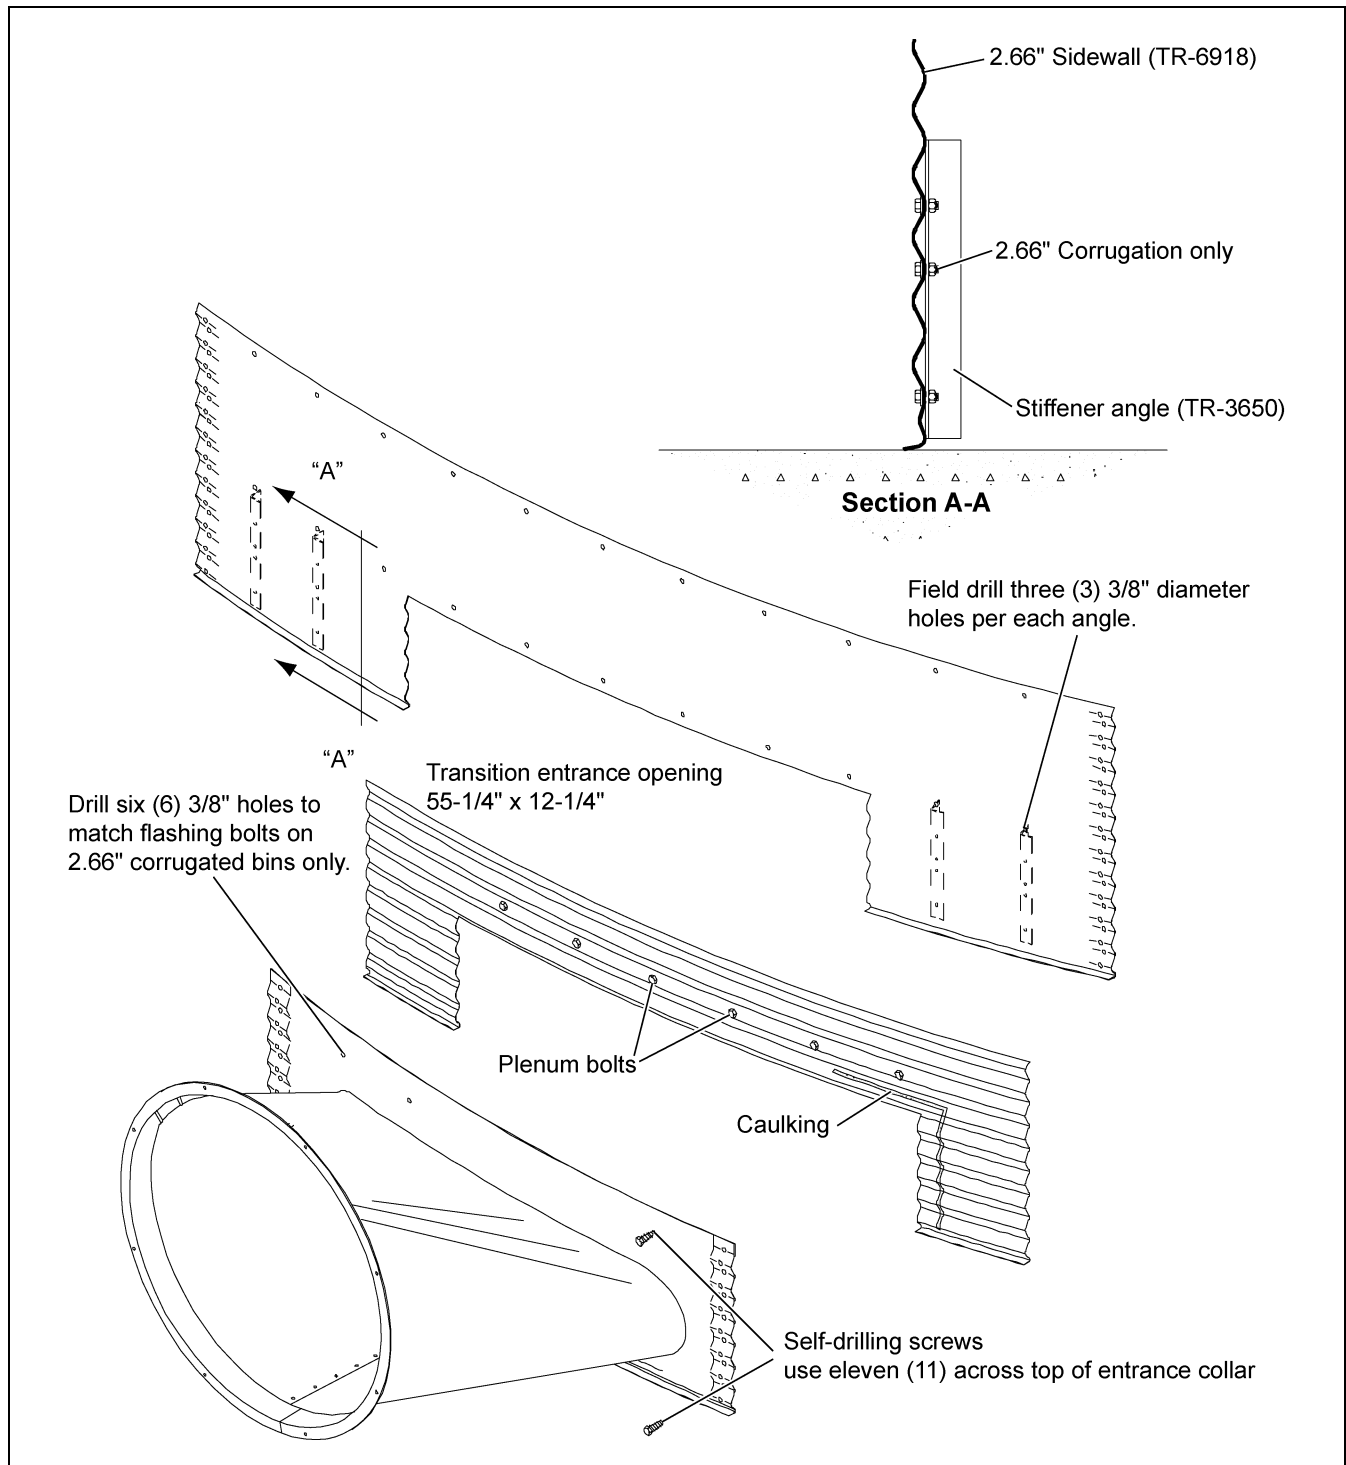

Figure 7
5. Cut 55-1/4" x 12-1/4" hole through base sheet as shown in *Figure 7*. Use stiffener angle as a template and field drill three (3) 3/8" diameter holes per stiffener angle as shown in *Figure 7*. Use 5/16" x 3/4" bin bolts to attach stiffener angles to the sidewall.
6. Apply a generous bead of caulk around perimeter of opening. Using self-drilling screws attach transition housing assembly as shown in *Figure 7*.